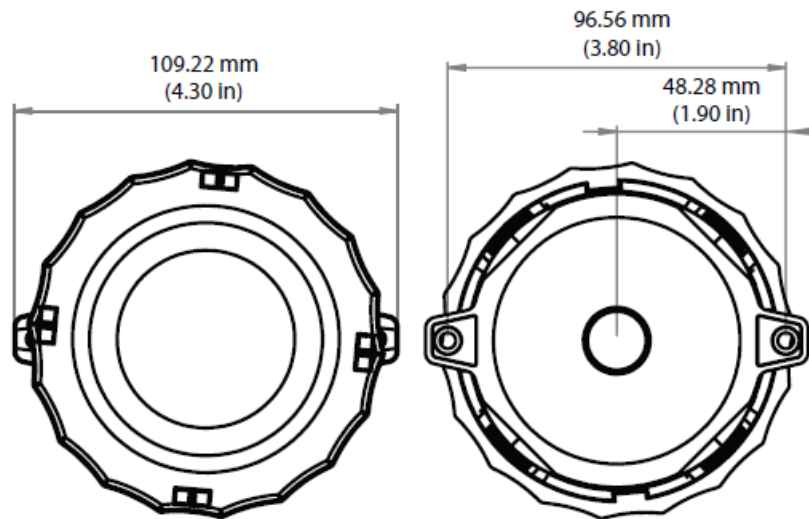

Figure 2: Dimensions for EURO (-EH) Enclosure
- Mount at least 0.3 m to 0.6 m (1 ft to 2 ft) below eave to prevent thermal radiation from affecting performance – see Figure 2.
Attach the base directly to the wall. Mounting holes are located at the bottom of the housing – see Figure 2. Drill pilot holes for the mounting screws. Use the enclosure mounting holes as a guide, or use the dimensions listed above to measure out.